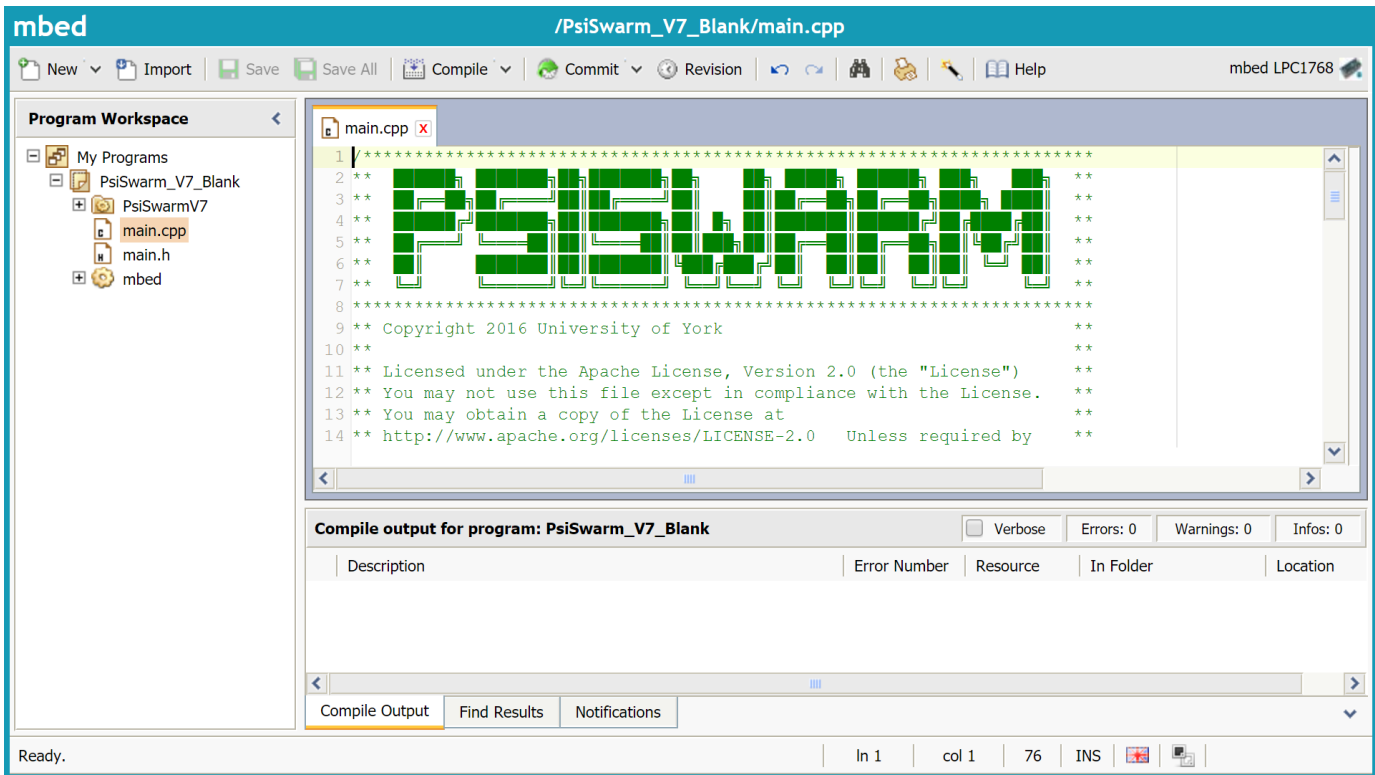

Figure 1: Screen shot of MBED Compiler at <http://developer.mbed.org>
2. Log in (*creating a new account if necessary*) and open the compiler (see Figure 1)